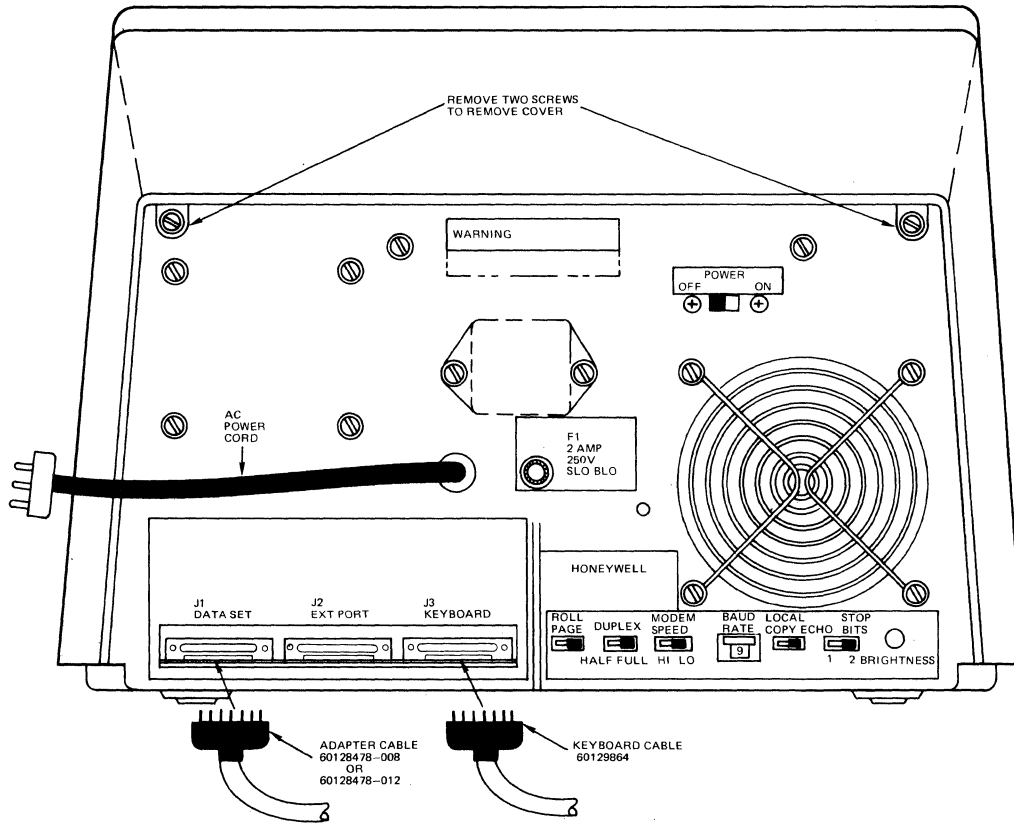

Figure 2-1 DKU9103/9104 Console (Rear View)
3. Remove the two screws and flat washers from extreme upper right and left corners on back of console (see Figure 2-1).
8. The BAUD RATE switch located on the back panel of the CRT cabinet (see Figure 2-1) and the hexadecimal rotary switch in position B02 on console Device-Pac (BD2CSL), located on the MDC board in the rack-mounted chassis, must be set to the same baud rate as follows:
10. Connect keyboard ribbon cable (69129864) to J3 on back of console (see Figure 2-1).
11. Locate console adapter cable (60128478-008, 26 feet or 60128478-012, 50 feet) rolled up at rear of system cabinet and plug it into J1 (DATA SET) at back of console (see Figure 2-1).
12. Locate console's ac power cord (see Figure 2-1). If possible, plug ac power cord into PDU within system cabinet, thereby placing console under control of system control panel ON/OFF switch. Otherwise, plug ac power cord into a standard 110-Fac service receptacle.